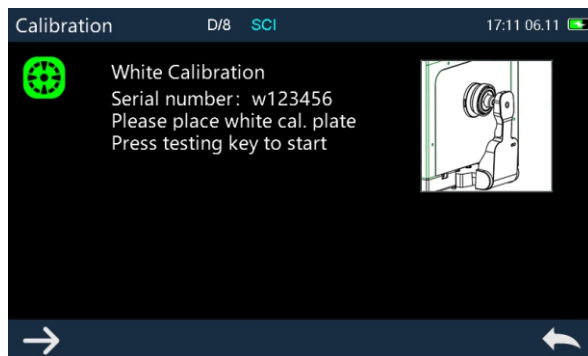

Figure 6 Reflective White Calibration
4. It will automatically enter White Calibration after Black Calibration is finished as shown in Figure 6. Place well white plate (Type C instrument whiteboard can be hold by hand), then press test key to start white calibration, or click ↩ to cancel and quit the white calibration.